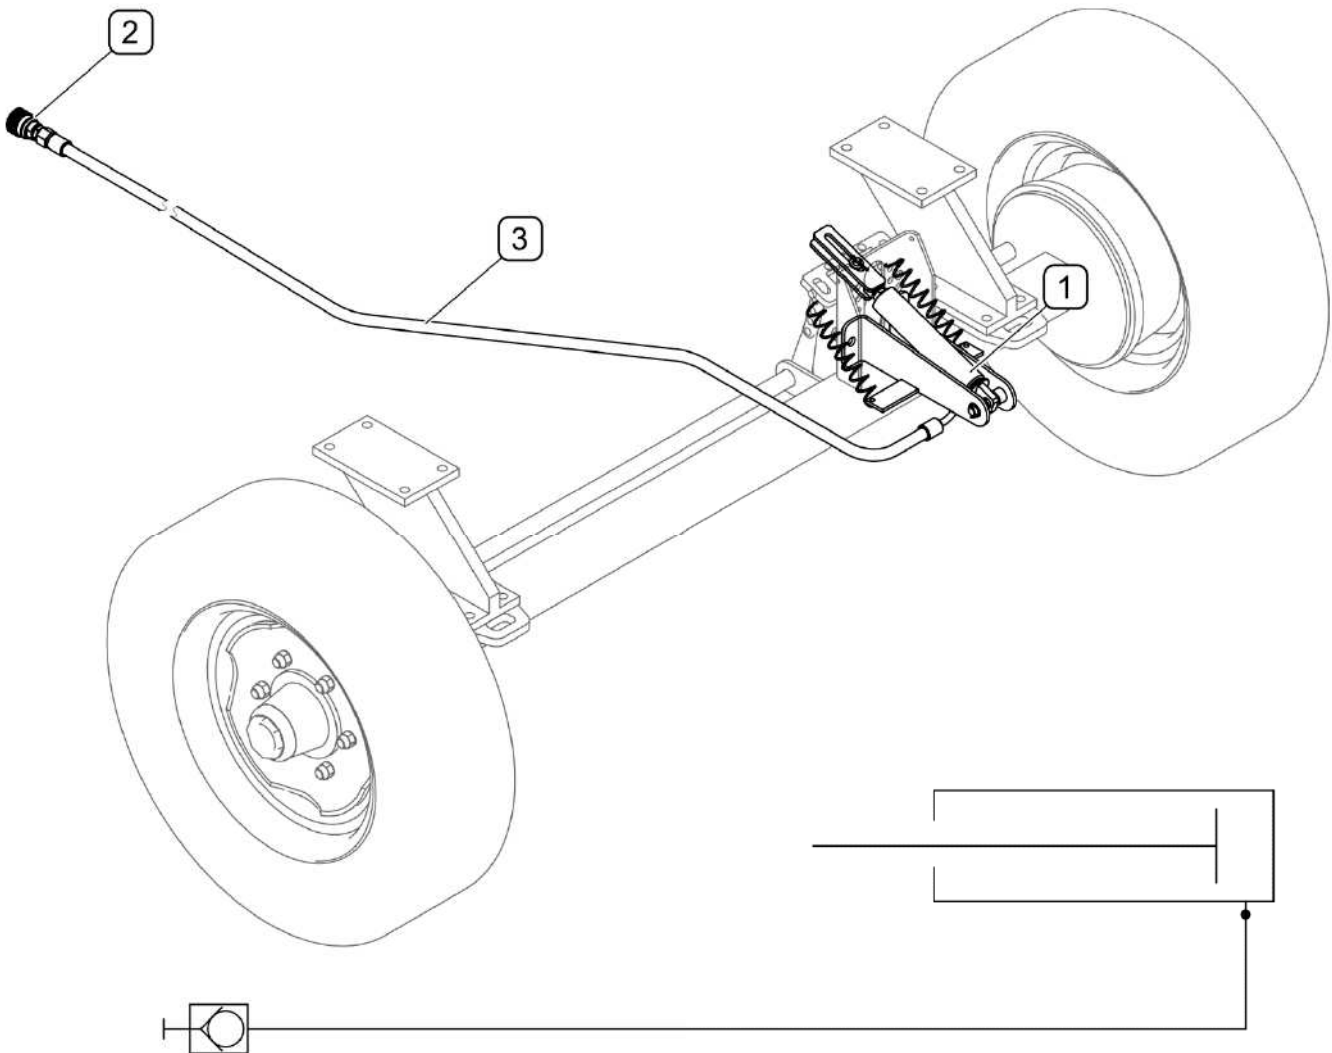

FIG. 3.6 Design of hydraulic brake system (option)
(1) - hydraulic cylinder; (2) - quick coupler; (3) - hydraulic conduit
Optionally, the sweeper can be equipped with hydraulic brake system (FIG. 3.6) that consists of hydraulic cylinder (1), quick coupler (3) and hydraulic conduit (3).